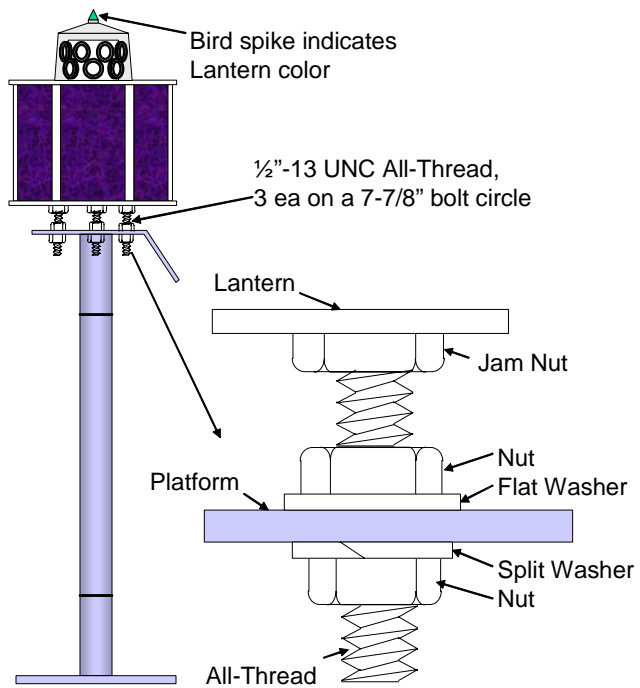

Figure 3-11
- d. On structures, Insert three 6" lengths of stainless steel $\frac{1}{2}$ "-13 UNC All-Thread in the base of the lantern as far as they will go (about 2"). Thread three $\frac{1}{2}$ " stainless steel nuts and tighten against the base of the lantern. These act as jam nuts and prevent the All-Thread from loosening in the lantern. Thread three stainless steel $\frac{1}{2}$ " nuts about half-way up the All-Thread. Place three stainless steel flat washers on the platform, then install the lantern on the platform. See Figure 3-11.